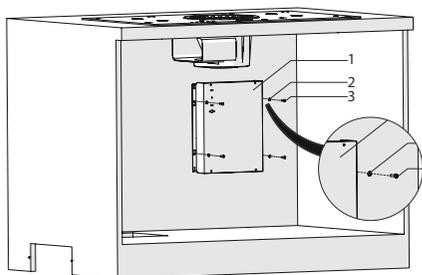

Fig. 20
5. **➔** Place the hood circuit box at a suitable location in the cabinet. Insert roves to four 3.9x22 screws and mount inside the cabinet (Fig. 20).